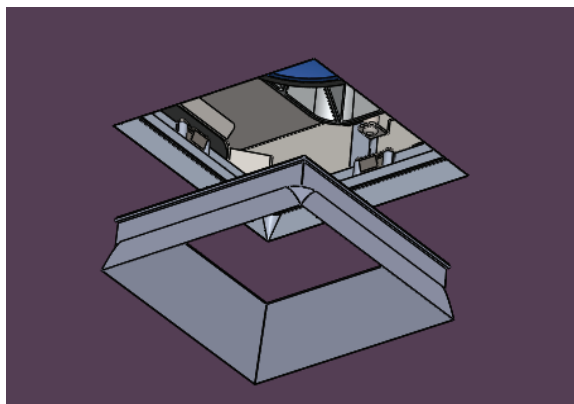

fig. 11
- a. Press the flangeless trim into the trim retainer (see fig. 11).